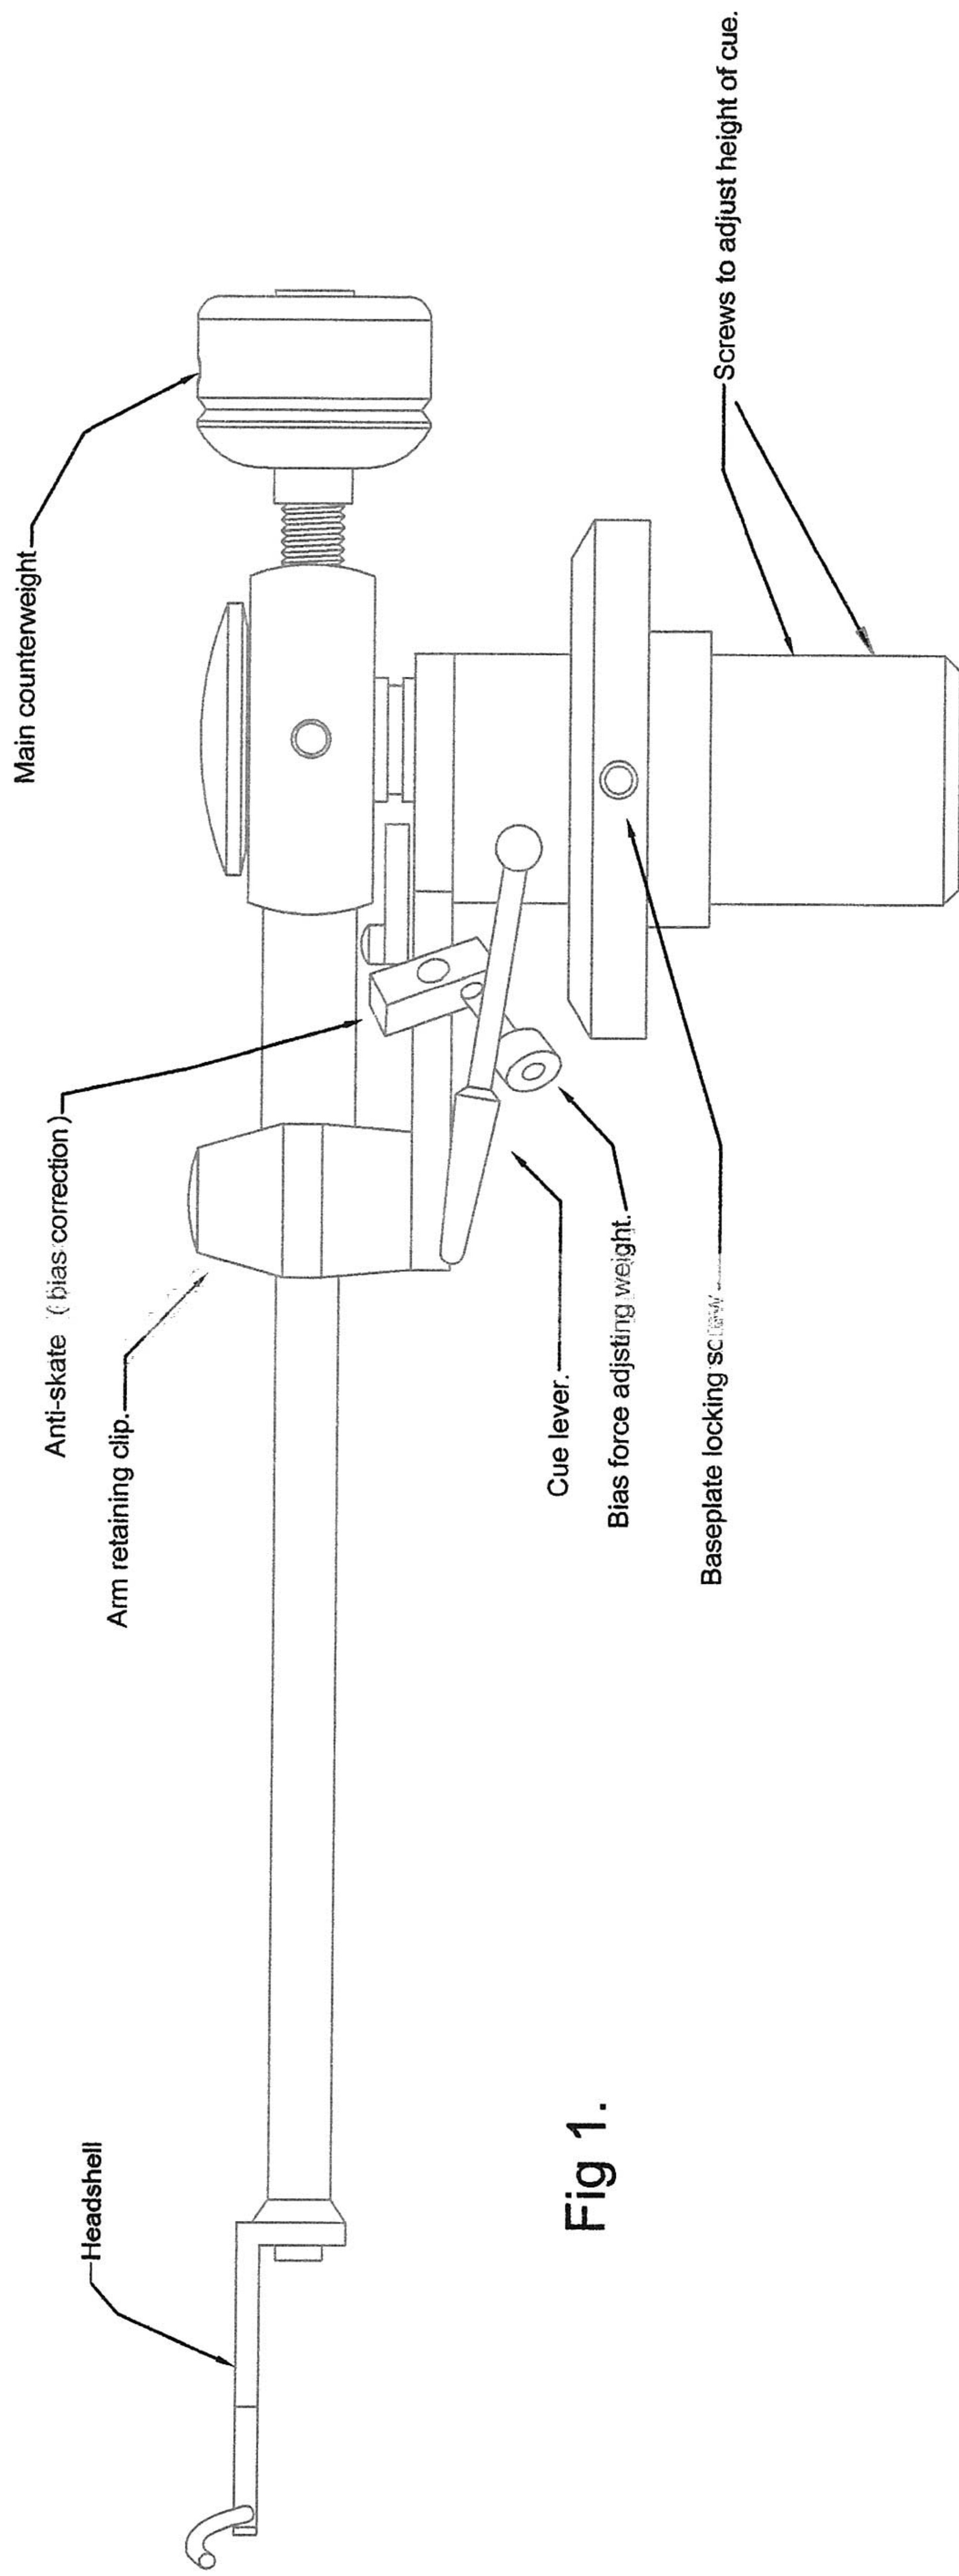

Fig 1.
- 1) Firstly remove the arm from the box, compare it with Fig. 1 and identify the main features. The arm is supplied without the weight fitted as the extra stress incurred during transit may result in bearing damage.
On the Scorpio, a small weight is provided to compensate for bias. Adjustment is facilitated by screwing the weight in or out of the small block positioned on the side of the platform. (See fig 1)
If you refer to Fig. 1, it identifies the location of the 2 grub screws that permit this adjustment.